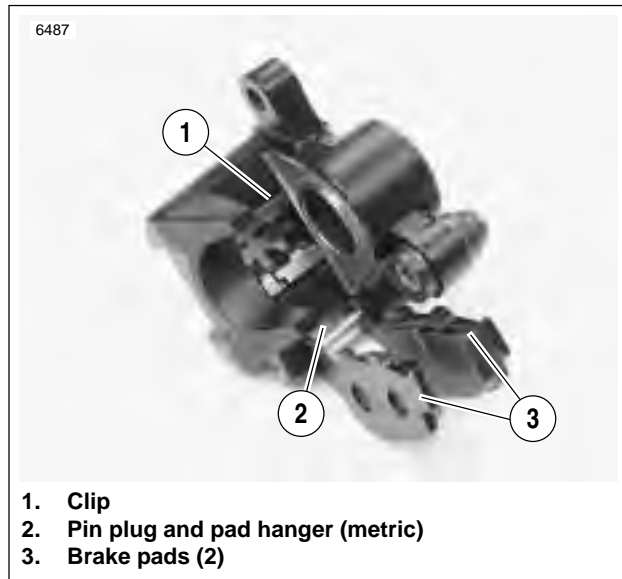

Figure 2-57. Brake Pads
1. See Figure 2-57. Place clip (1) inside caliper body as shown.
3. See Figure 2-57. Install brake pads (3) using pad hanger and pin plug (2).